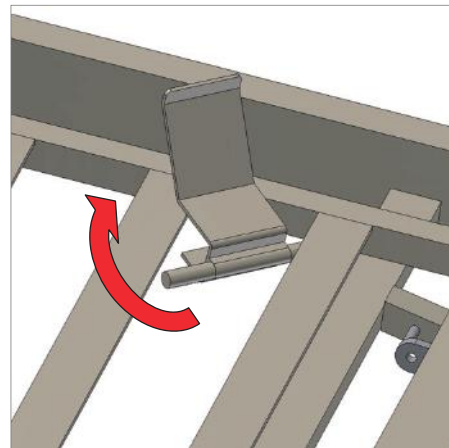
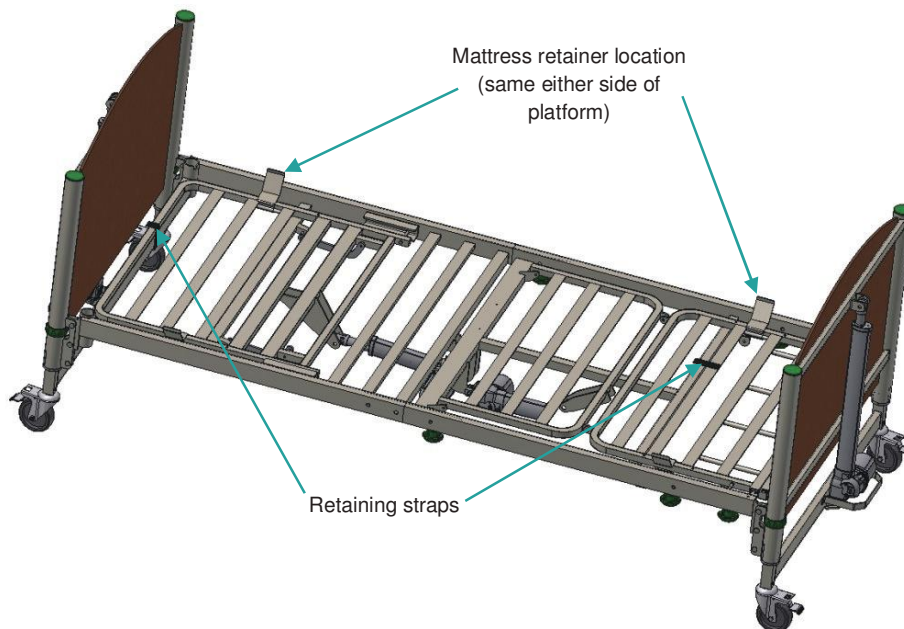

Figure 8: mattress retainer
Figure 9: Location of mattress retaining clips and retaining straps
18. Attach the 4 mattress retaining clips to the bed frame (Figure 8) at the locations shown (Figure 9).
19. Remove the retaining straps holding the moving parts of the frame to the bed ends at the locations shown (Figure 9).